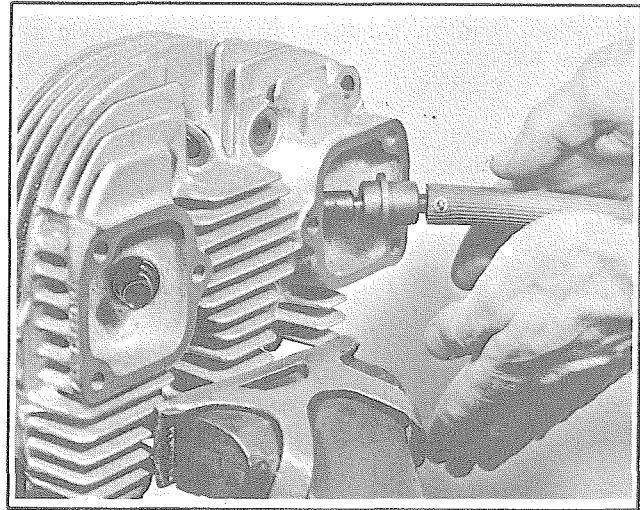

Figure 3B-10. Lapping Valve Face and Seat
ASSEMBLING CYLINDER HEAD (Fig. 3B-7)
To install valve assemblies in cylinder head, reverse the disassembly procedure. Apply a light coat of oil to valve seats and stems. Be careful to insert marked valves (18) in their respective guides (19). Carefully seat lower valve spring collar (17) over valve guide. Install springs (16 and 15) and upper collar (14). Compress valve springs with Valve Spring Compressor, Part No. 96600-36. Position keys (13) in valve key groove using grease to hold them in place and slowly release compressor tool until keys are correctly locked in groove (see Fig. 3B-8).